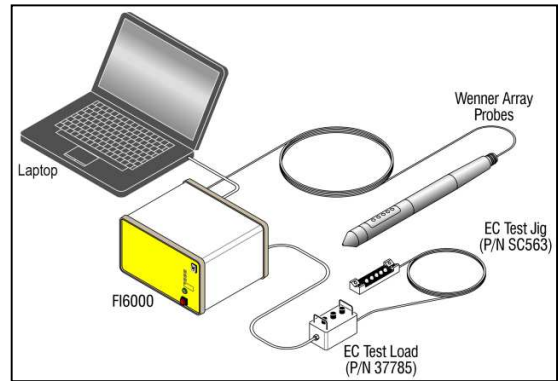
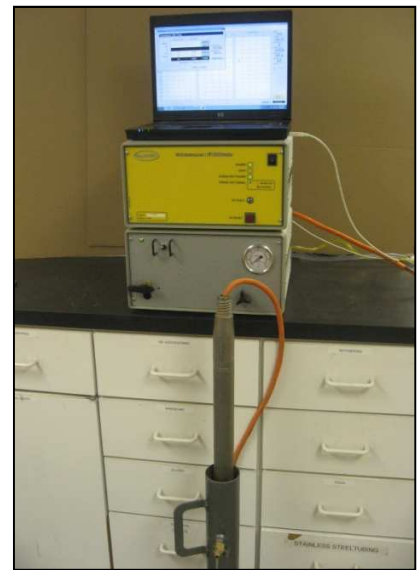

Fig.3: EC Test load for EC and HPT Wenner array probes
Fig.4: HPT pressure sensor response test
The response test for the EC tool uses an EC test load and test jig system (Figure 3). This will apply a known load value resulting in specific EC response ensuring that the electrical conductivity will be accurate and consistent in the logs. The FI6000 data acquisition system will direct an operator through performing the pre and post log EC test load tests with each log. The FC5000 data acquisition system will perform an instrument test that will check the instruments EC calibration. This test is now used as a troubleshooting step if the test load values are out of range. In the FC5000 software an operator needs to advance to the logging screen and run the 3 level tests on the EC test load and write down the values from the screen into their field notebook.
With the HPT probe, the EC response test is the same as what is written above for the EC probe. There is also a response test for the down-hole pressure sensor (Figure 4). This test verifies that the HPT (down-hole) pressure sensor can accurately measure a column of water, determine atmospheric pressure and determine the condition of the HPT injection screen by measuring the pressure with and without water flow. With HPT the operator must perform this HPT sensor response test as well as a down-hole dissipation test to be able to calculate the static water level and to estimate hydraulic conductivity (K). The FI6000 data acquisition system will direct an operator through performing pre and post log response tests with each log. On the FC5000 systems the operator is directed through making the HPT measurements when they choose to run the instrument tests. For the EC test load data (Figure 3) an operator needs to advance to the logging screen and run the 3 level tests on the EC test load and write down the values from the screen into their field notebook.